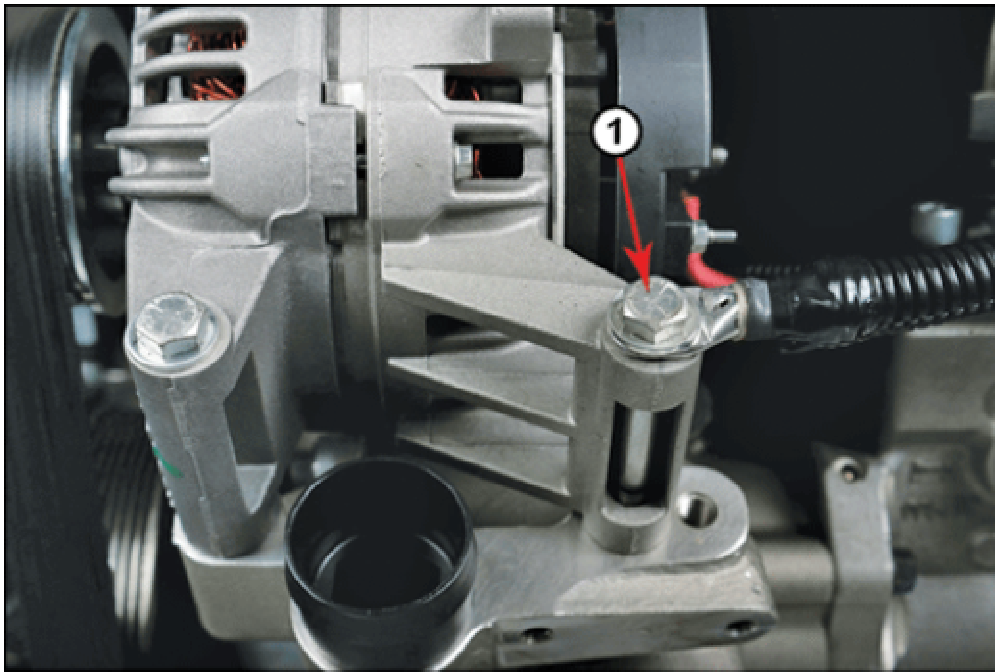

Figure 6
6. Remove the alternator mounting bolt that secures the ground cable of the alternator harness (Figure 6).